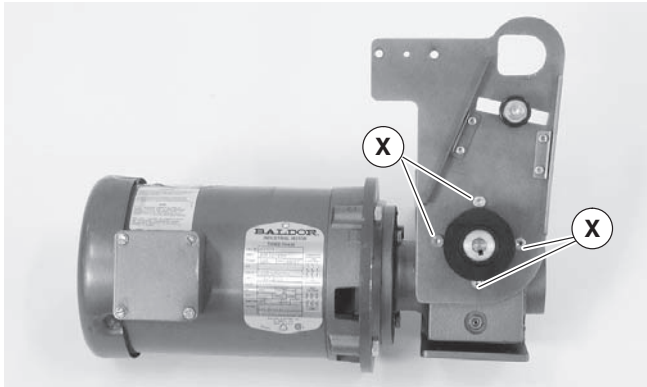

Figure 4
- If required, change gearmotor position by removing four screws (Figure 4, item X) from bottom mount assembly and two screws (Figure 5, item Y) from gear reducer support. Rotate gearmotor to other position and install screws. Tighten screws to 103 in-lb (12 Nm).